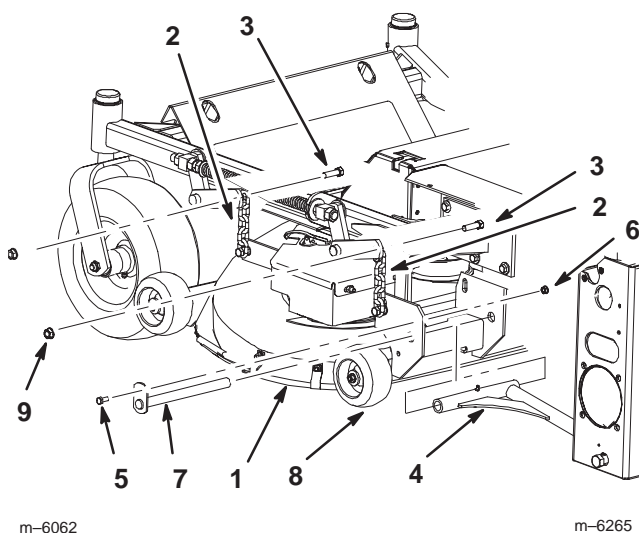

Figure 3
4. Remove the four bolts and nuts at the top of chains that attached to mower (Fig. 3).
5. Remove the nuts and bolts holding the push arm pins (Fig. 3).
Note: The gage wheels may need to be removed to allow the push arm pins to be removed (Fig. 3).
6. Remove the push arm pins (Fig. 3).
7. Raise the height of cut lever and slide the mower out (Fig. 3).